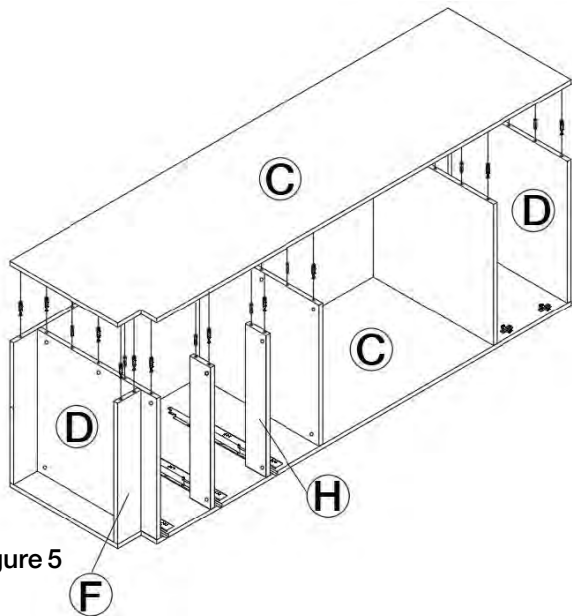

Figure 5
7. Install side panel (C) onto the assembled panels using the same methods above. (Figure 5)